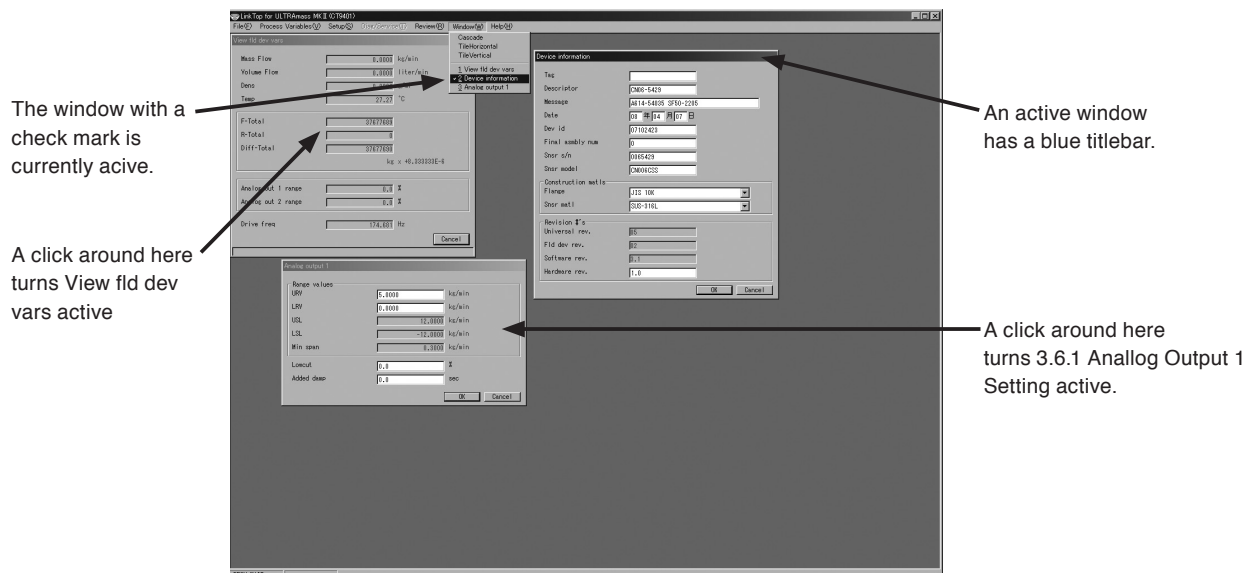

Fig.119
- ① If three message boxes are present on the screen as shown in Fig. 119, for example, clicking on "Window (W)" at the menu brings the names of these message boxes to appear in the window with a check mark before the active one.
- ② Clicking on the name of the window you want to activate turns that window active.
- ③ Active and inactive can be selected by another approach : clicking on any part of the message box you want to make active on the screen turns that window active. See Fig. 119.